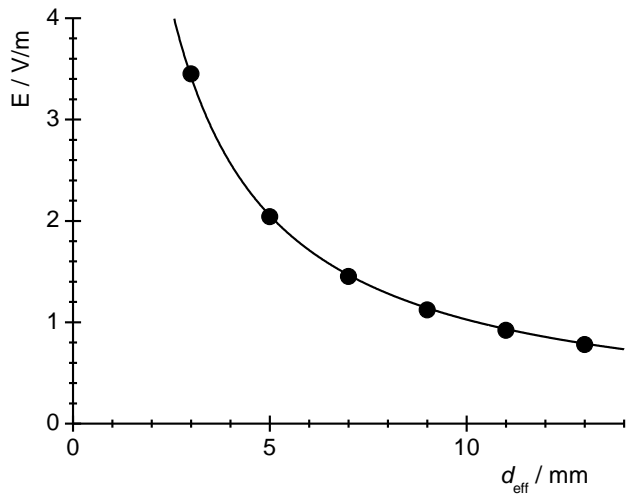
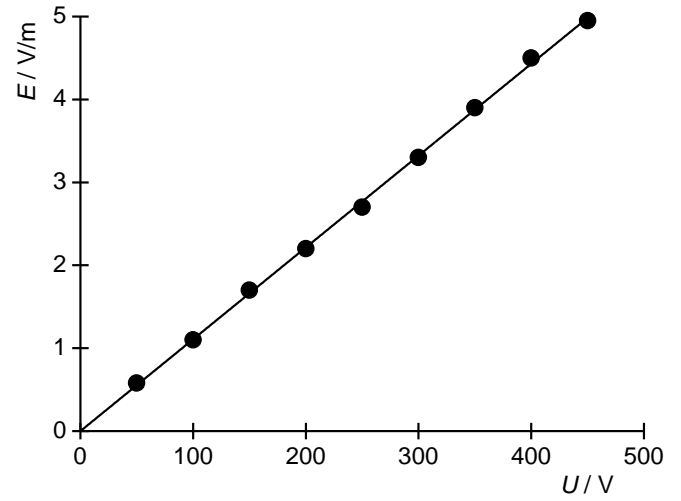

Fig. 3: Electric field within plate capacitor as a function of plate separation for  $U = 100 \text{ V}$ .
Fig. 4: Electric field within plate capacitor as a function of applied voltage  $U$  for  $d_{\text{eff}} = 10 \text{ mm}$ .
- Plot the electric field strengths  $E$  you have measured against the effective plate separations  $d_{\text{eff}}$  (Table 2) and the applied voltage  $U$  (Table 3) (see Figs. 3, 4).
- The hyperbolic relationship between field strength and effective plate separation (Fig. 3) and the linear dependence on applied voltage (Fig. 4) as predicted by equation (2) are verified by these graphs.